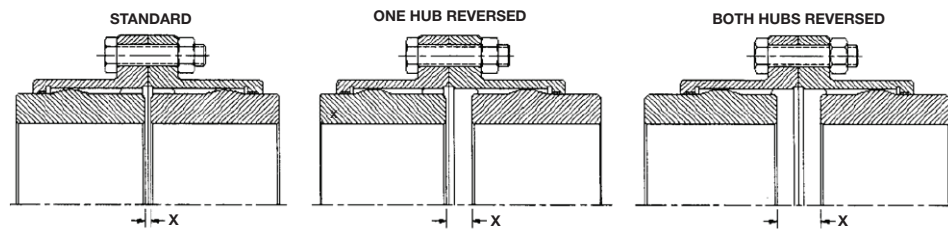

Figure 1 - "X" Dimension Between the Driver and Driven Hub Ends
5. Locate the driver and driven machinery to maintain the "X" dimension between the driver and driven hub ends, per Table 1, illustrated in Figure 1